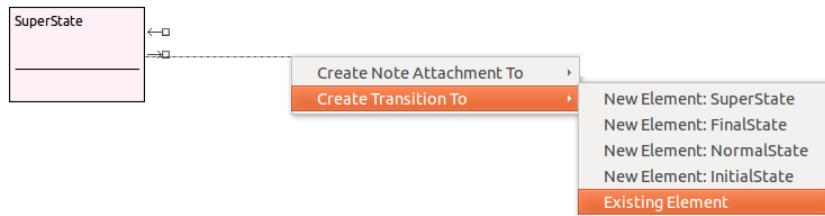

Figure 4.5: Transitions from menu in the canvas
- **Transitions** can be modeled in two ways from the canvas. In both these approaches you need to hover your mouse over one of the states (source/destination) to bring an arrow selection menu to front, select one of those arrows, and drag it to the target state. Once the arrow has been selected, you can either drag your mouse to the target state, or drag your mouse to the canvas to bring the menu shown in Figure 4.5 to front. From this menu, you can either select an existing state as your target state, or create a new one.